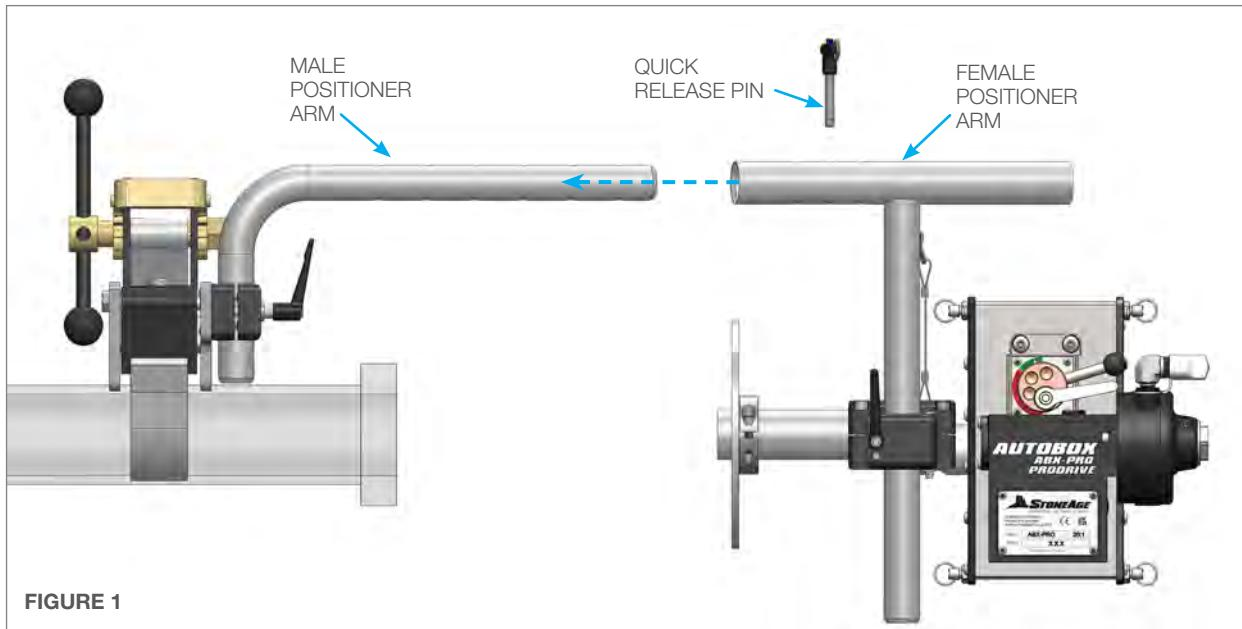

FIGURE 1
1. Slide the Female Positioner Arm onto the Male Positioner Arm. **(Figure 1)** Line up the incremental holes and push the Quick Release Pin through both positioner arms. **(Figure 1.1)**
1. To load a hose, release the Adjustable Handle and rotate the Cam Lever until the Indicator Pin is in the “**Disengaged**” position. This opens up the space between the rollers. **(Figure 1)**